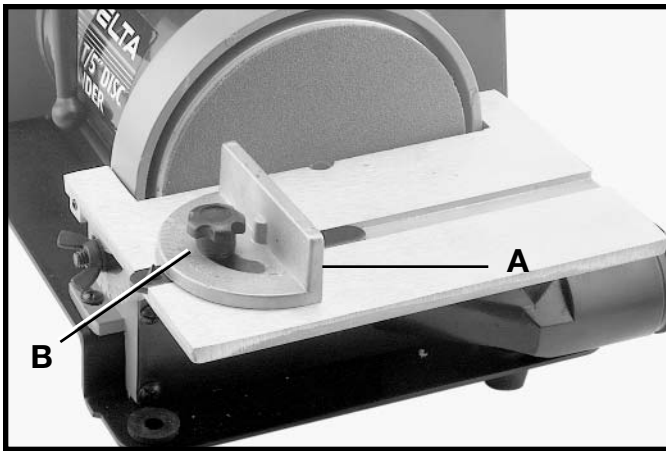

Fig. 27
A miter gage (A) Fig. 27, is supplied with your sander and can be used on the disc table. The miter gage head (A) can be set up to 45 degrees right or left by loosening lock knob (B), moving miter gage head to the desired angle and tightening lock knob (B).